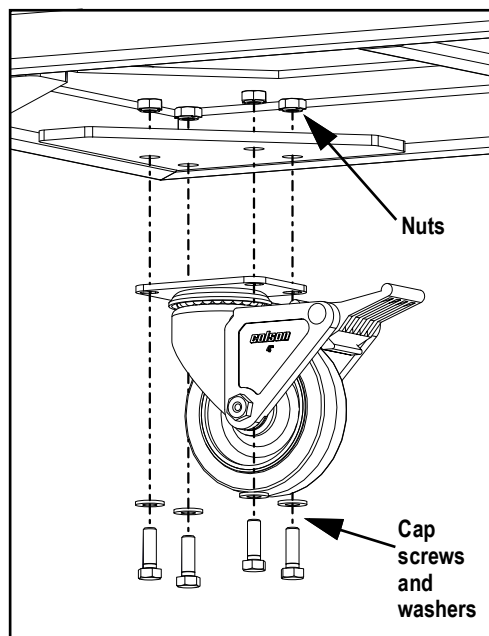

Figure 2-1. Caster Installation
3. Secure the screws with 5/16 in hex nuts (see Figure 2-1).